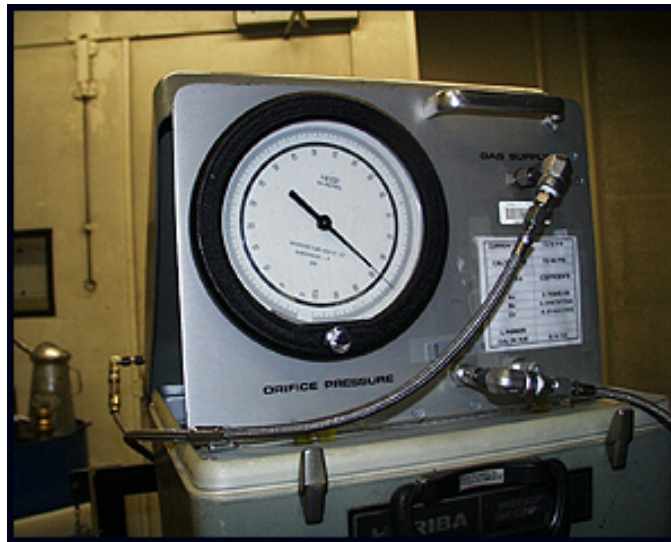

Figure 20
- 127 When the sample collection is finished, go into the test cell and read the temperature and pressure from the propane kit. See Figure 20.